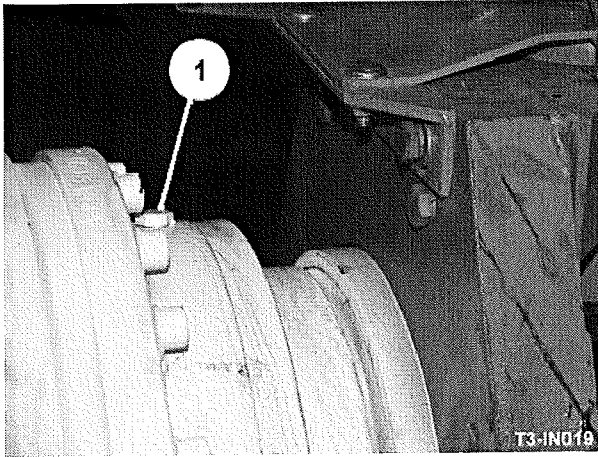

Fig 22
Place the wheel motor in a position in which the filler plug (item 1, fig 22) is at the top. Remove the plug and pour in hydraulic oil until all trapped air has been eliminated. Refit the plug and repeat for the second motor. Run the motors unloaded. Finally, operate the motors under load and check for leaks and extraneous noise.